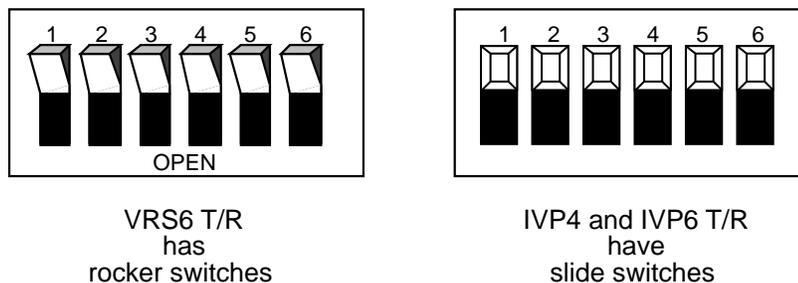

Figure 7-5. T/R Switch Bank A Setting
The switches one (1) through six (6) on Switch Bank A correspond to channels 0-5, respectively, on each T/R card. In general, all switches on Switch Bank A should be left in the factory default "OPEN" position (Figure 7-5).